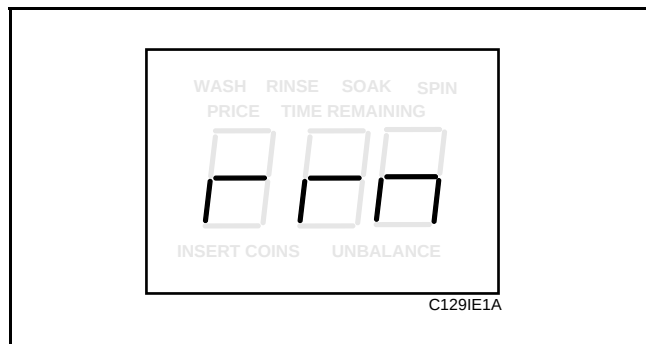

Figure 83
3. Press the DELICATES (+) pad or the COLD (-) pad to scroll through the programmable options until “rrn” appears in the VFD. See **Figure 83**.